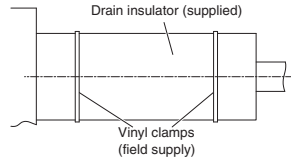

Fig. 3-10
- (2) After checking the drainage, wrap the supplied packing and drain pipe insulator around the pipe, then secure it with the clamps. (Fig. 3-10)